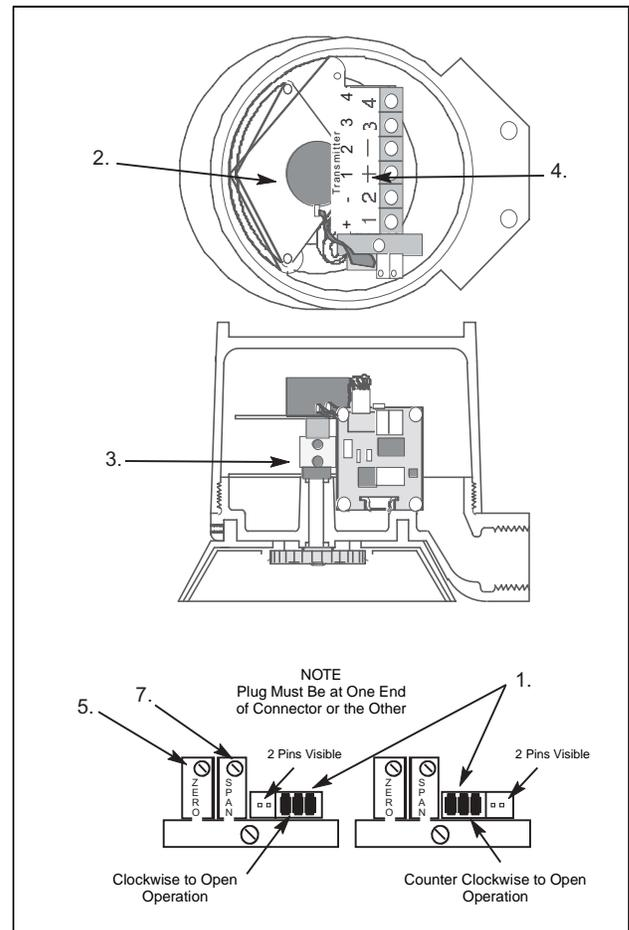

Fig. 14 Position transmitter calibration
1. Connect the plug as shown for either clockwise or counter clockwise to open operation (as viewed from top), see Fig. 14.